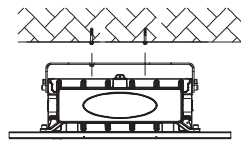

Figure 3
3. The holes on the bracket should be aligned with the expansion screws (Figure 3).